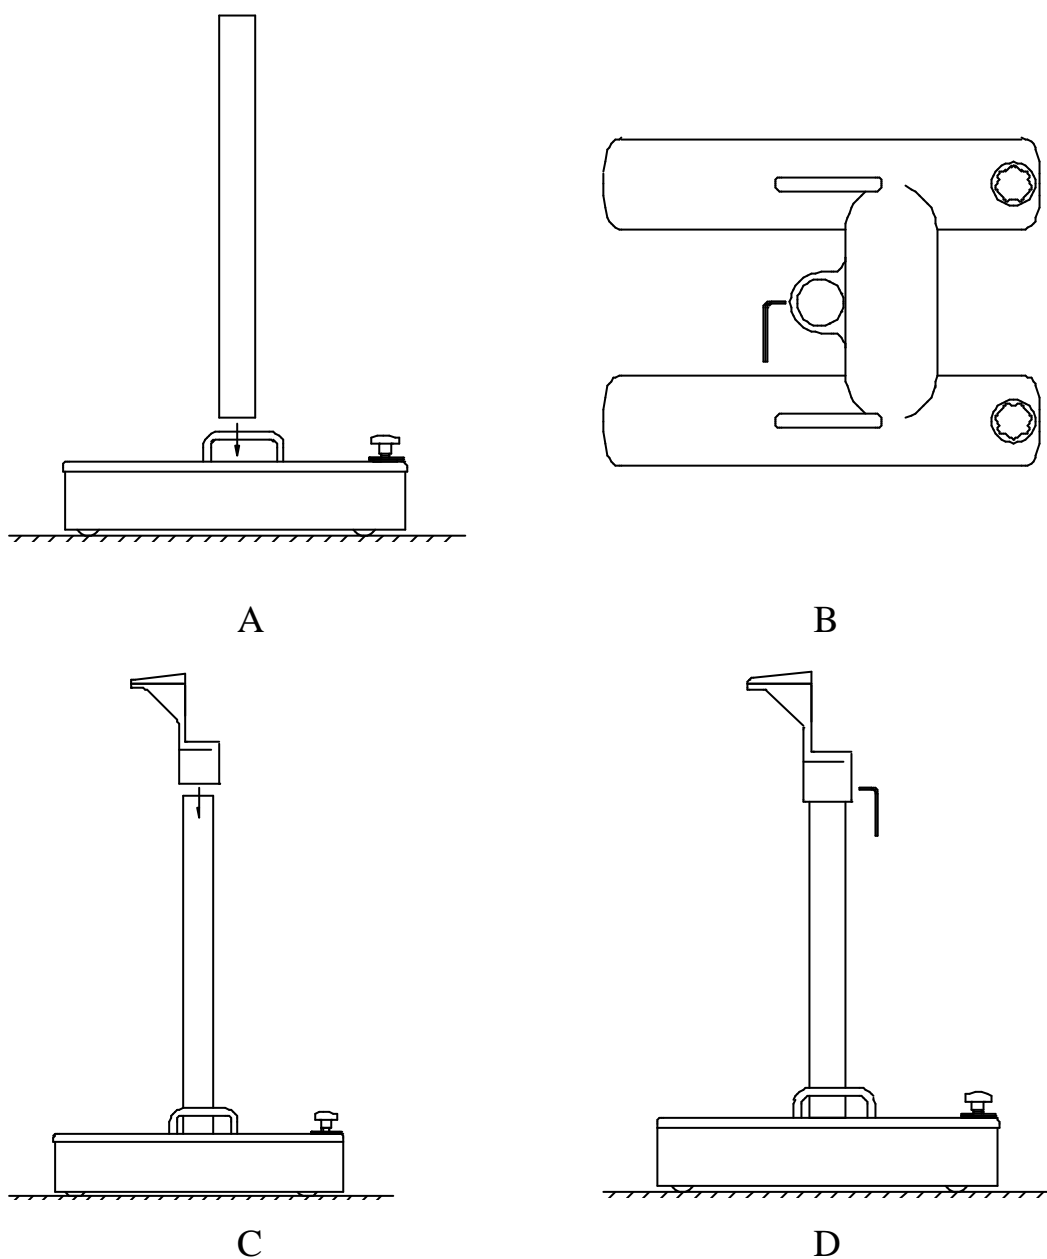

Figure 1 Assembling the floor stand
2. Insert the pillar into the hole. Tighten the two grub screws using the 5mm socket key found in the tool kit to fix the pillar in place. Refer to figure 1 (A), (B).
3. Remove the clamp mount from the case or carton and place it on the pillar. Tighten the two grub screws to fix the clamp mount in place. Refer to figure 1 (C), (D).